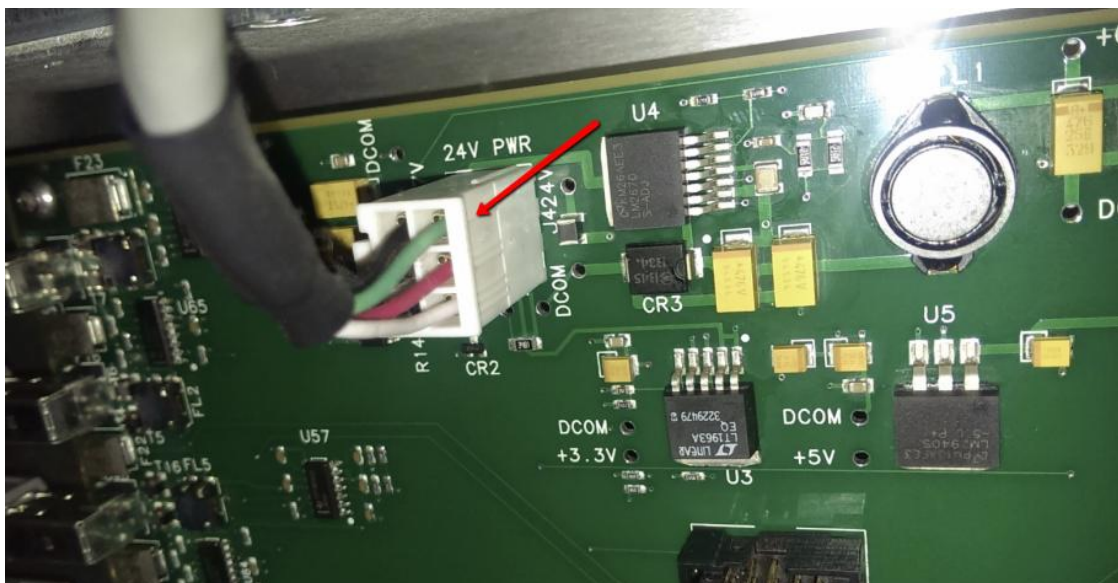

Figure 31 Trigger Board Power Connector
15. Connect Trigger Board Power Cable End Connector into Trigger Board (J424v Connector Slot) as Figure 31